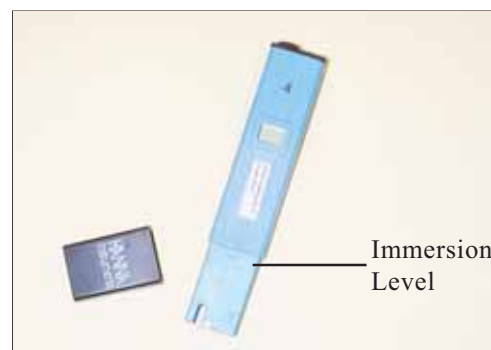

Figure 1c.
- Do not immerse the EC meter above the immersion level (**Figure 1c**). Under no circumstances should the meter be immersed above the display level.